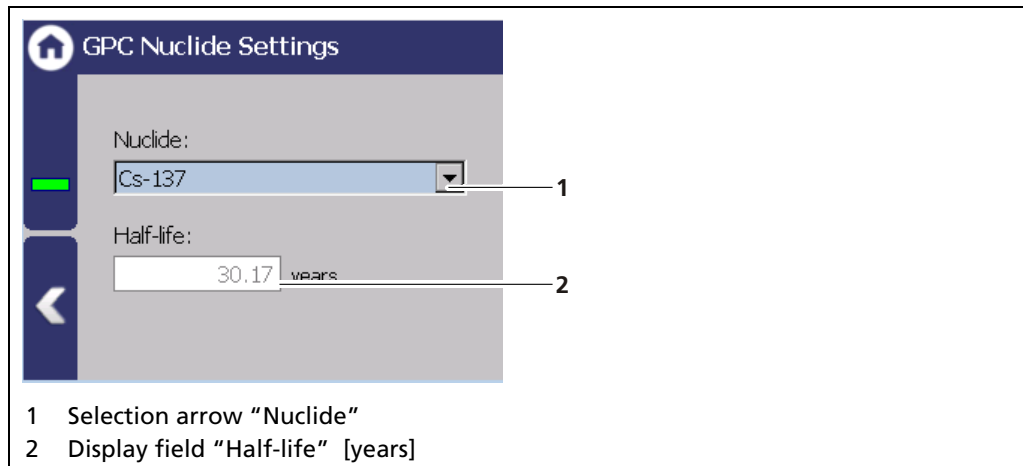

Fig. 98 GPC Nuclide Settings
Under "GPC Settings" the isotope of the source for gas density measurement can be selected (Fig. 98, item 1). The half-life time of the isotope is shown in the display field (Fig. 98, item 2).